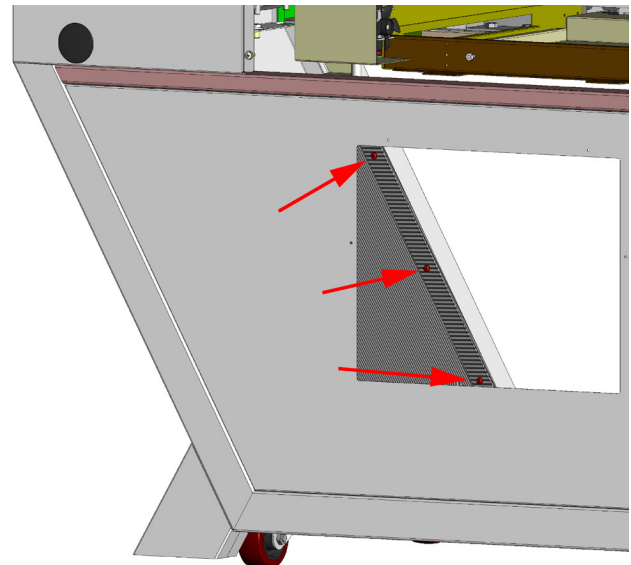

FIG. 7
7. When viewed from the rear access areas, remove 3 screws shown in Fig. 7.